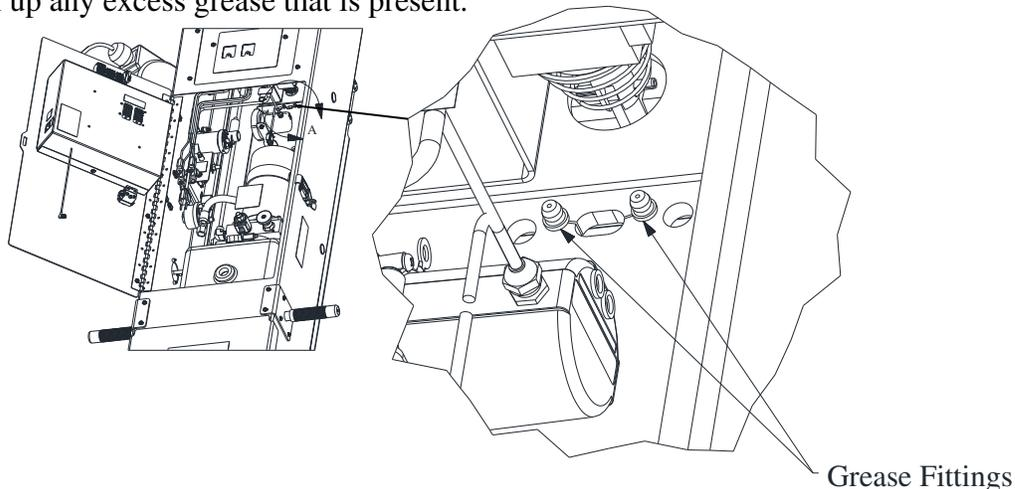

Figure 8. *Down Stop Grease Fittings*
- a. Open the door and locate the two grease fittings shown in Figure 8.